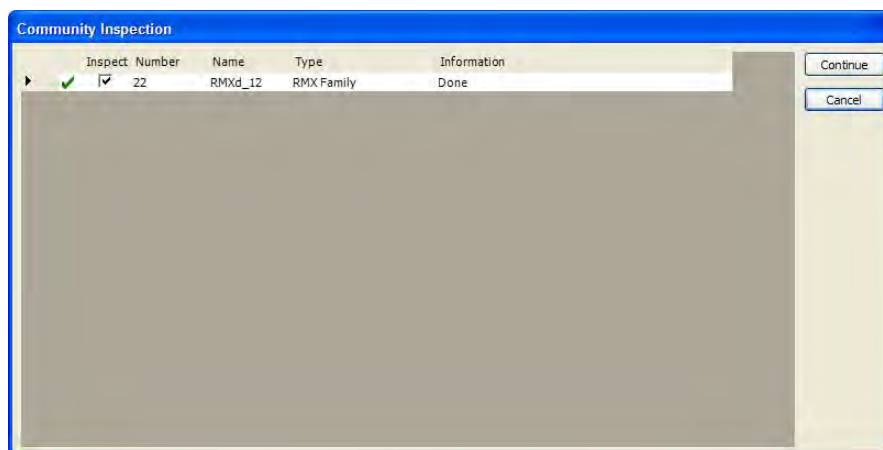

Figure 4-11. Community Inspection Completed
4. Click the **Inspect** button. The information line shows “done” when the inspection is completed (Figure 4-11).